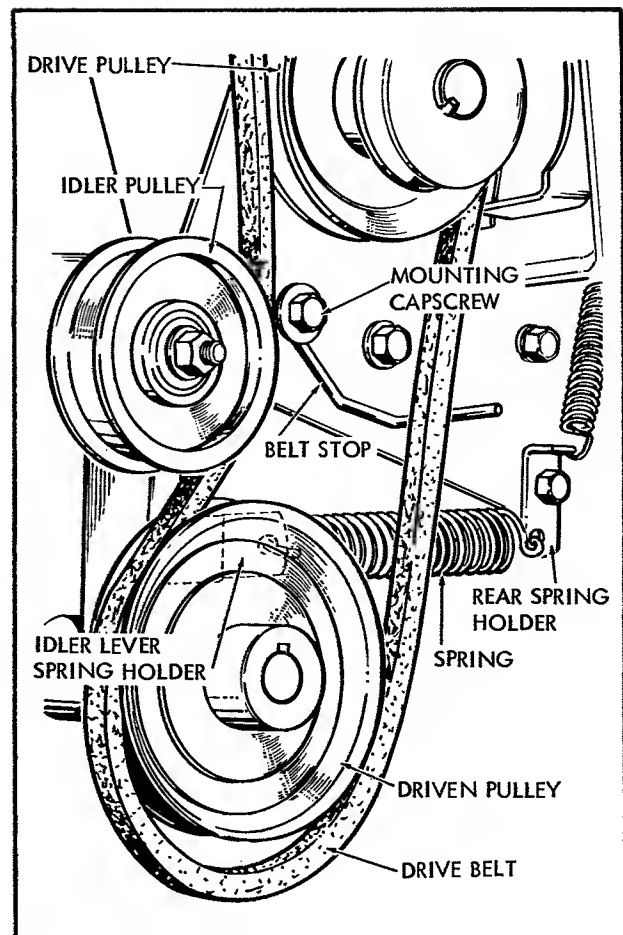

Fig. 5
5. Mount "V" belt in place on driven pulley as shown in figure 5 and attach spring to bottom hole in the spring holder and hook other end of the spring to the idler lever spring holder. Mount belt stop as shown with 3/8" bolt, flat washer, lockwasher and hex nut. When idler pulley is engaged, 1/8" clearance between belt stop and back of "V" belt is required. Note: "V" belt runs under idler pulley. See figure 5.